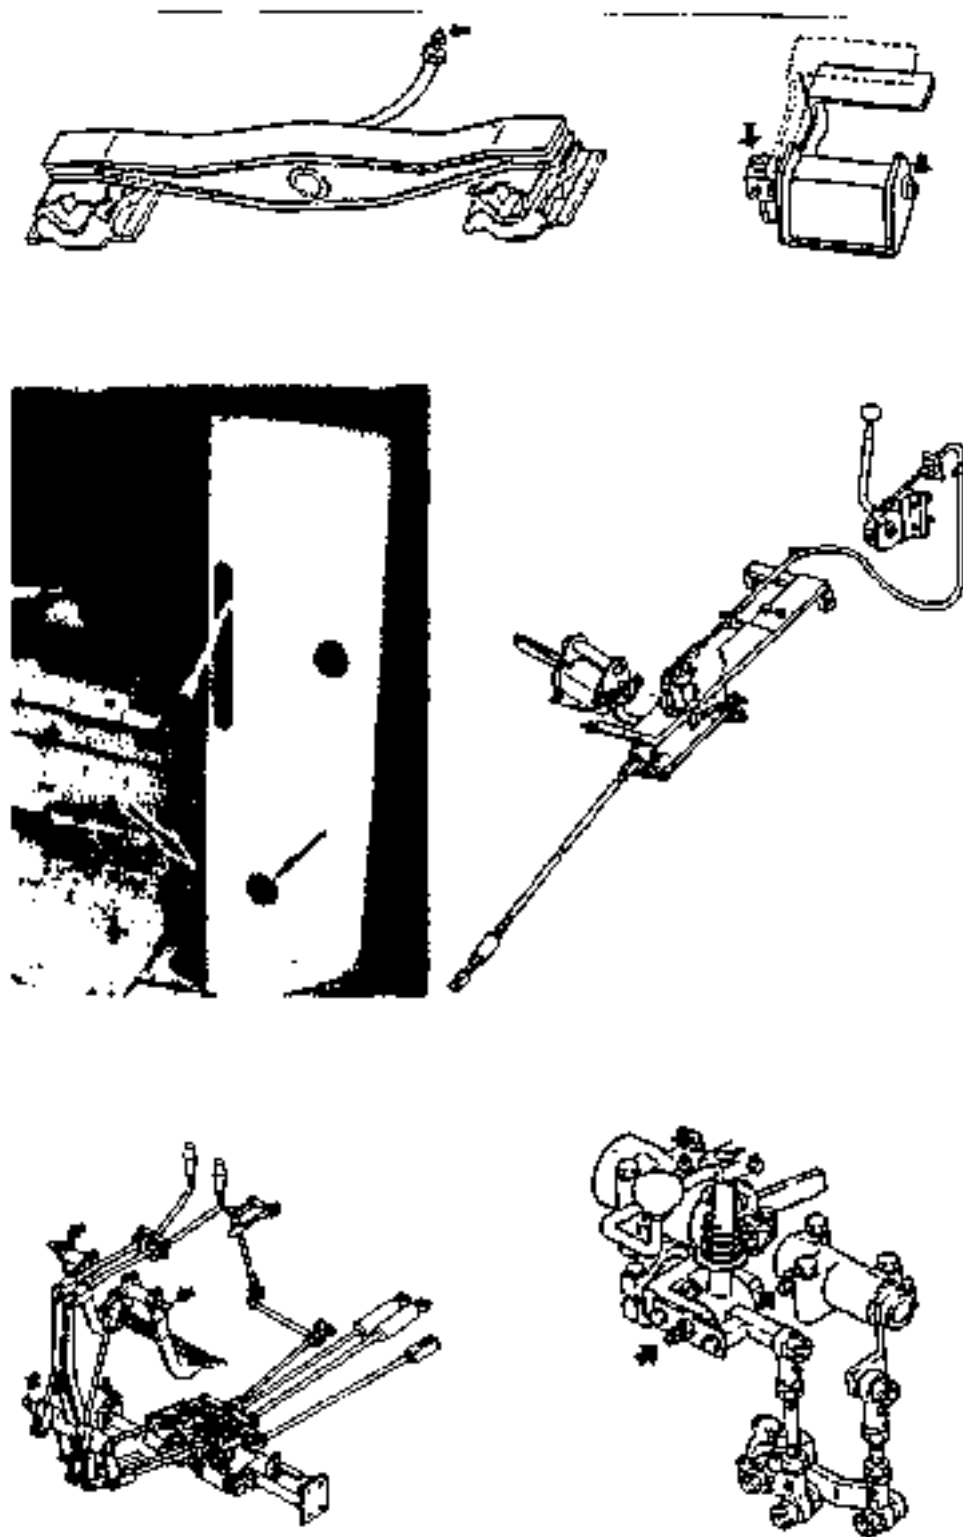

Fig. 5-18
Refill grease. Grease each point indicated by arrows shown in Fig. 5-18.
(1) As shown in Fig. 5-18 remove cover(1) and outer element(2).